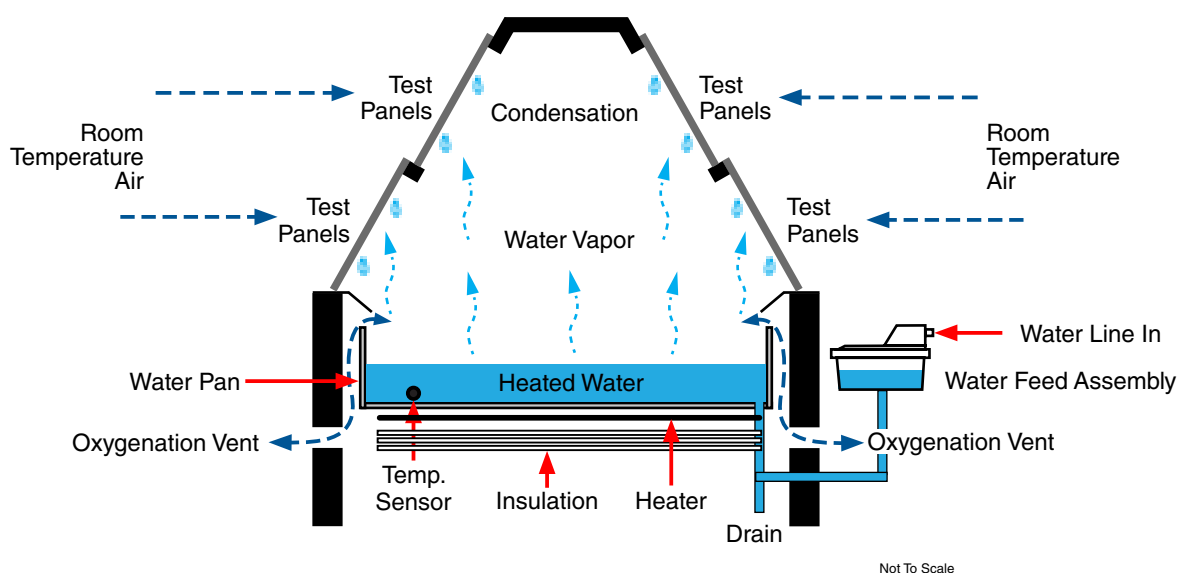

Figure 7.1: QCT Condensation System
- The Condensation System includes: a water feed assembly, a water pan, a water heater, and a control system. Figure 7.1 shows the major components and function of the QCT condensation system.